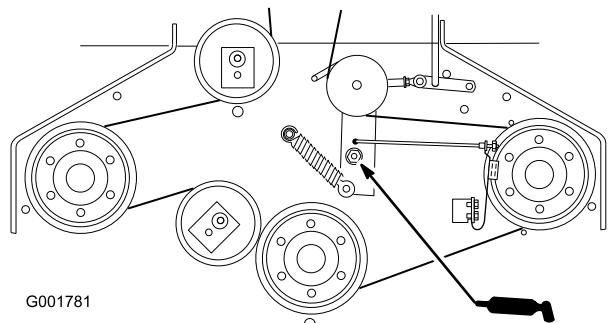

Figure 4
2. Check the mower belt idler arm for grease (Figure 4).